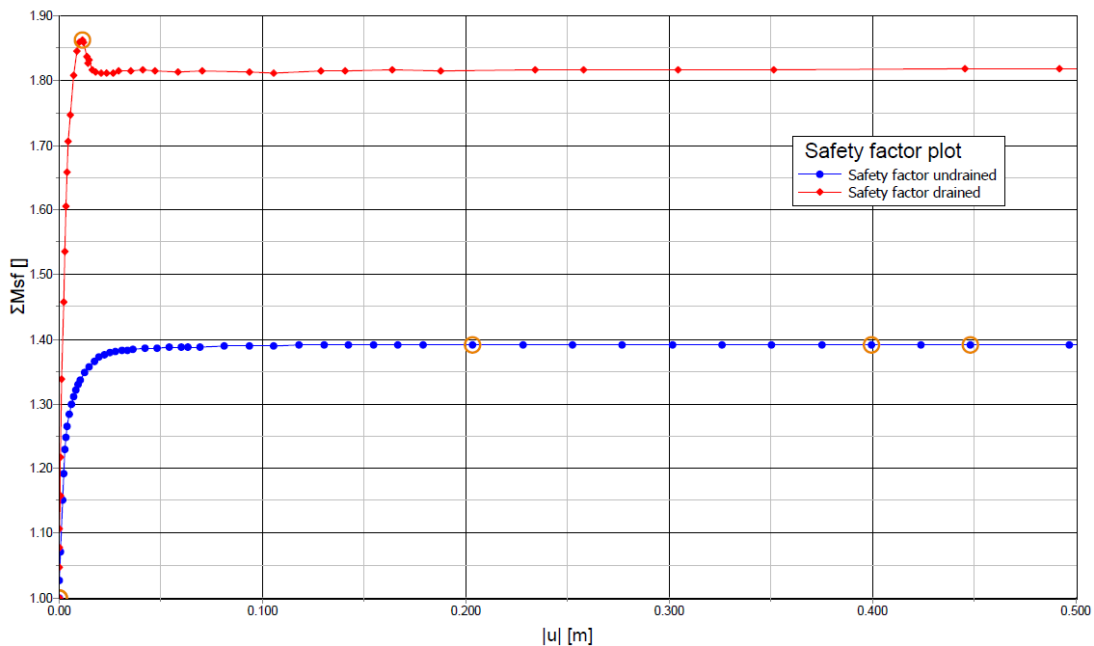

Figure 41: Evaluation of safety factor
- The plot is shown as follows in Figure 41 (on page 50):